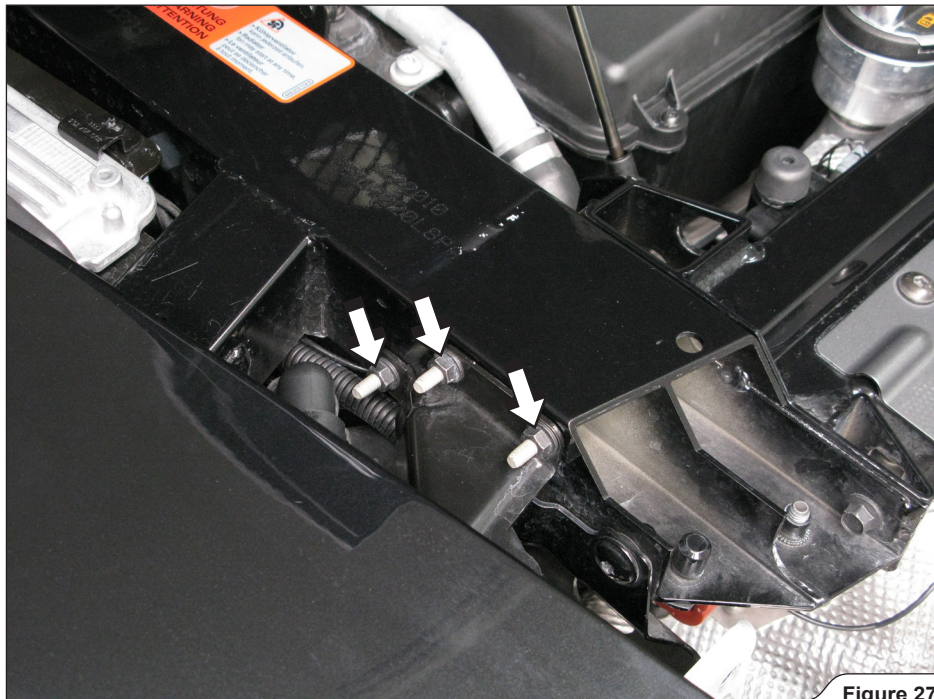

Figure 27
19. For easier dismantling of upper muffler's bolts, unscrew the marked nuts on both sides of the vehicle and partially remove both air blowers (**Figure 27**).